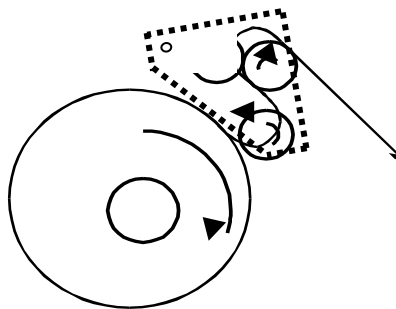

Figure 2 Plastic film in pre-stretcher
5. The plastic film must be threaded as shown in figure 2, then grab the bow and lay the pre-stretch unit on to the new film roller.